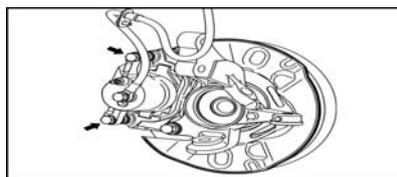

Fig. 2-59
① Install the front disc brake slave cylinder by 2 bolts. See Fig. 2-59. Tightening torque: 34N·m.